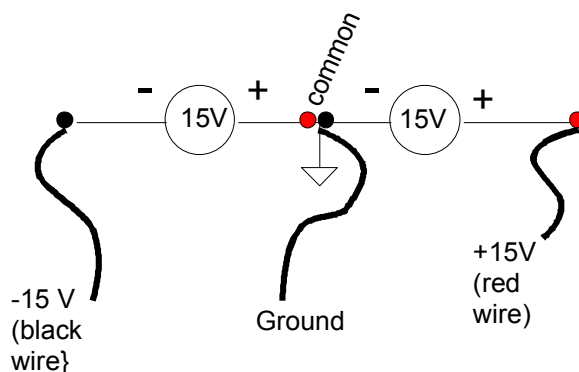

Figure 5: Dual supply rail power supply.
- The power supplies provided in the laboratory have two DC sources which can be configured as either independent, series, or parallel. To obtain a dual supply rails from the power supply, the power supply can be configured in series mode [**one button down and another button up, if unsure ask the demonstrator**]. In this configuration, the negative terminal of one source will be connected to the positive terminal of the other internally as shown in Figure 5, and the connected terminals will define the analogue ground of the circuit (common). The other two terminals can define +15V and -15V rails as indicated in Figure 5 when the voltage output is adjusted to 15V. [**please ask the demonstrator to check the configuration before turning on the power**]: